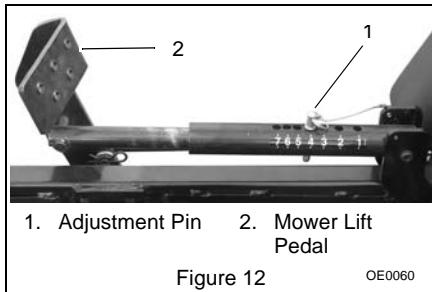

Figure 12
1. Install adjustment pin in the fourth adjustment hole (figure 12).